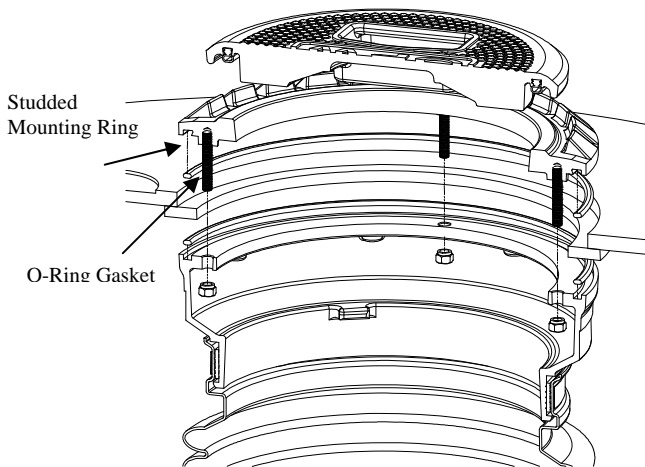

Figure 4
15. Place the mounting ring over the containment buckets and rotate the mounting ring until the studs are aligned with the bucket ring holes. (See Figure 4.)